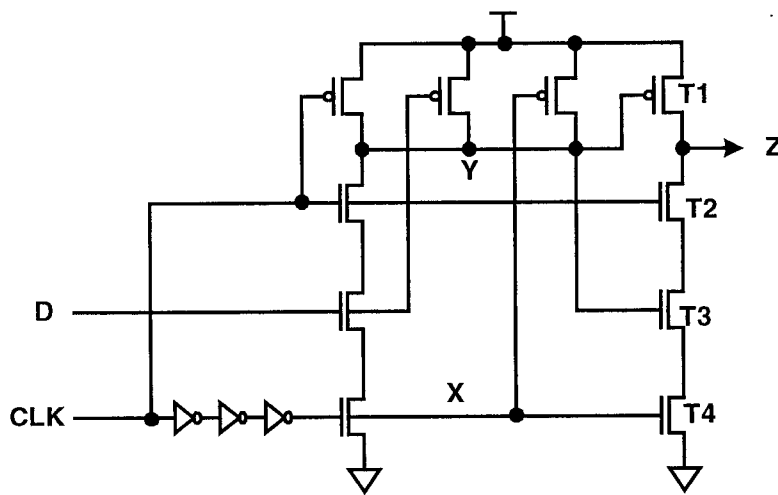
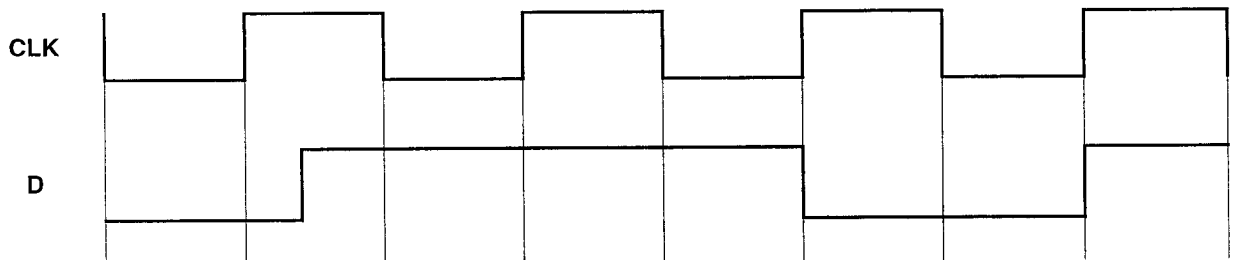

Figure 5.1
Figure 5.2
- b) Figure 5.1 shows a synchronous circuit used in the AMD K-6 microprocessor. Figure 5.2 shows the signals at CLK and D. Draw a timing diagram showing the signals CLK, D, X, Y and Z, and the state of transistors T1, T2, T3 and T4. The timing diagram should be labelled with the following signal states:
*driven low (DL)* - a path to ground exists,
*driven high (DH)* - a path to Vdd exists,
*charged low (CL)* - high impedance with no stored charge, and
*charged high (CH)* - high impedance with stored charge at Vdd
*don't know (X)* - unknown level.